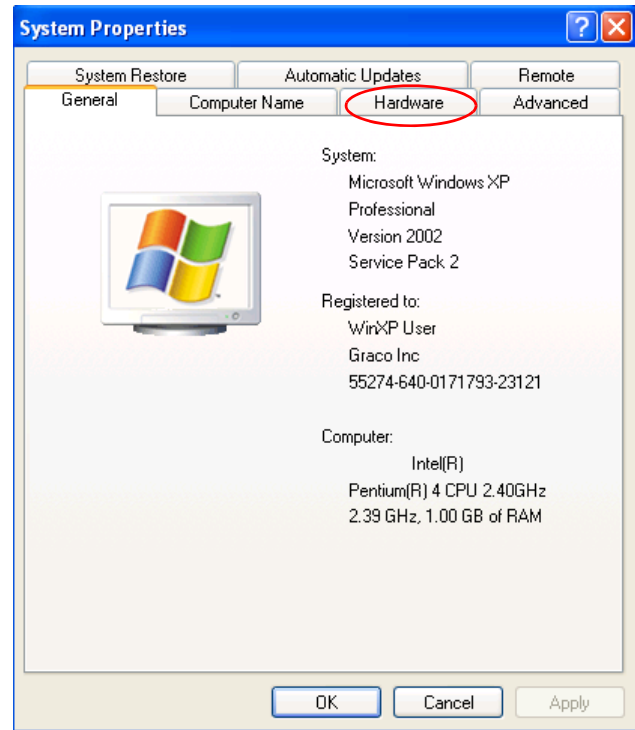

FIG. 5
2. On the “System Properties” menu, click the “Hardware” tab. See FIG. 5.